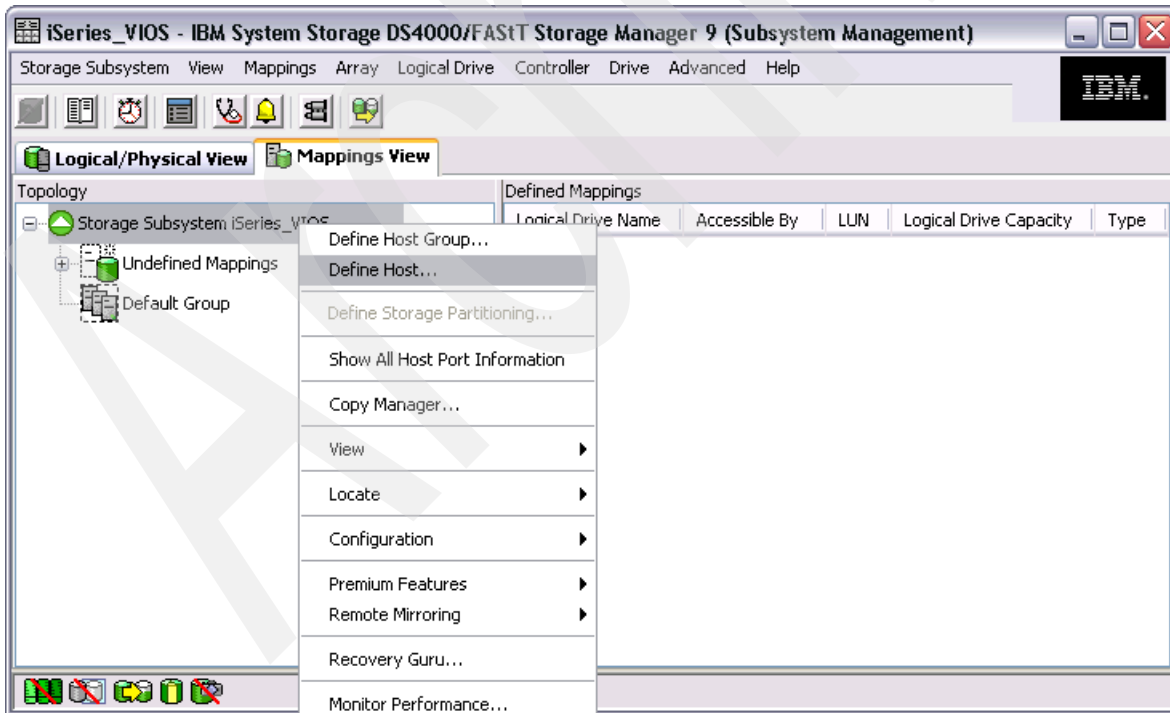

Figure 7-63 DS Storage Manager Define Host context menu
4. We right-click our Storage System and select **Define Host** from the context menu, as shown in Figure 7-63.